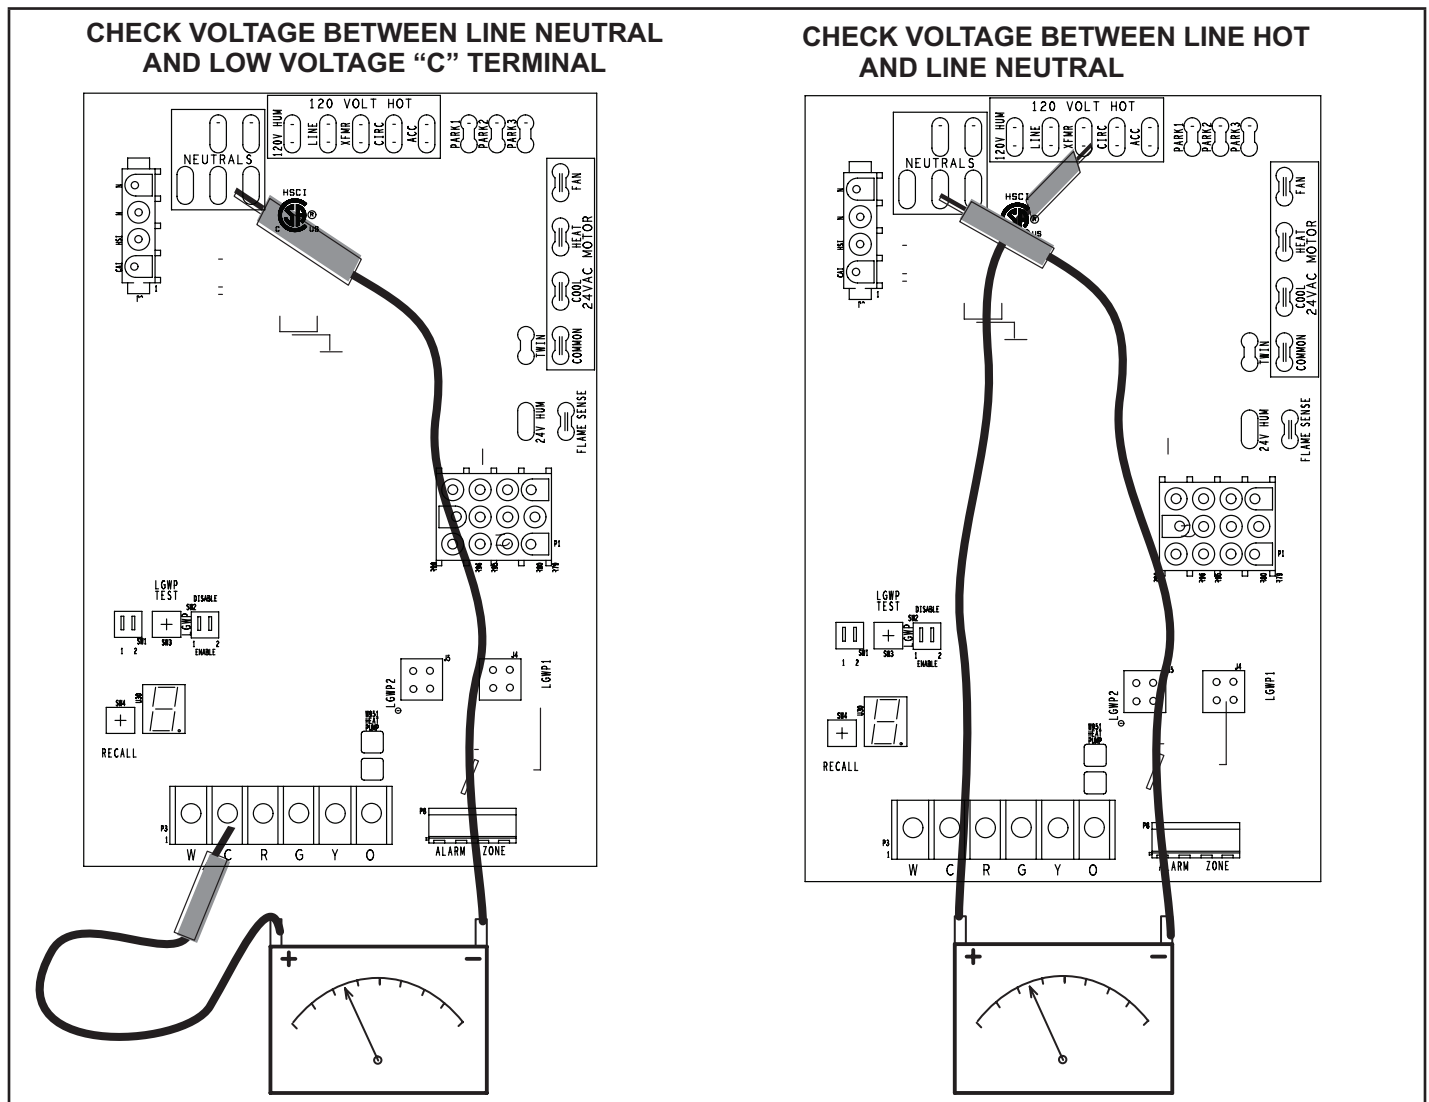

FIGURE 54
- 1 - Measure the AC voltage between Line Neutral (spade terminals) and "C" terminal (low voltage terminal block) on the integrated control. See FIGURE 54. A wide variation in the voltage between Line Neutral and "C" as a function of load indicates a poor or partial ground. Compare the readings to the table below. If the readings exceed the maximum shown in TABLE 20, make repairs before operating the furnace
- 2 - In addition, measure the AC voltage from Line Hot to Line Neutral (spade terminals) on the integrated control. See FIGURE 54. This voltage should be in the range of 97 to 132 Vac.